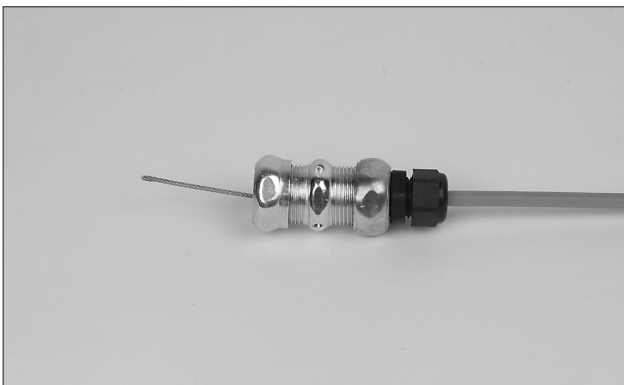

FIGURE 4-72
5. Push flexible conduit into strain relief until it is approximately 1/16 in. (1.6 mm) from the bottom of the flexible conduit insert, then tighten strain relief nut onto strain relief body. See Figure 4-72.